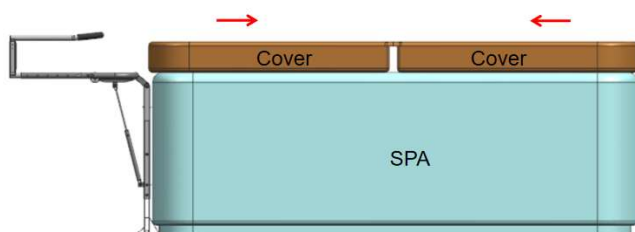

Fig.18
Step 9: Repeat these steps conversely to fit cover on the SPA. (Fig.18)